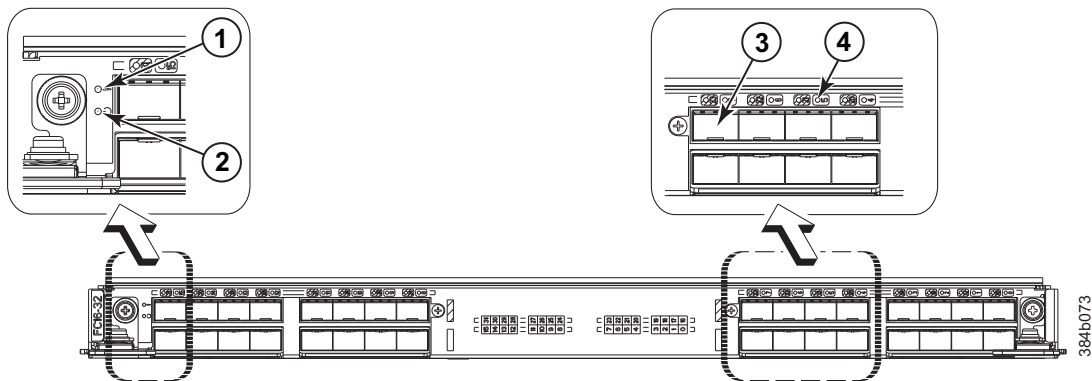

Figure 18. FC16-32 port blade
- Figure 18 illustrates the FC16-32 port blade